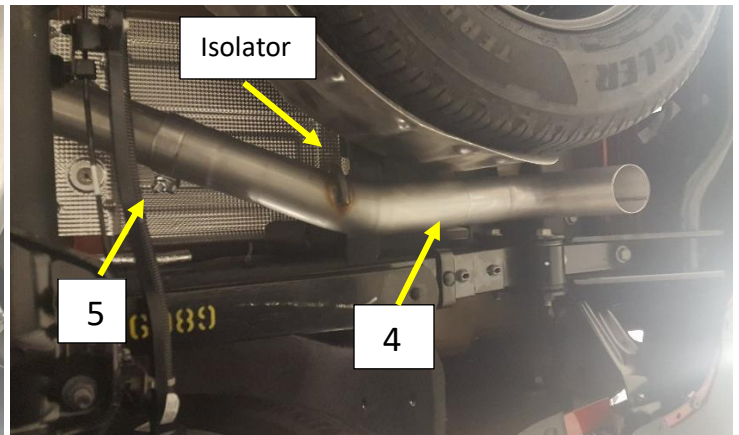

Figure.6
15. Install a supplied 3.0" band clamp (5) onto the expanded end of the turn down tail pipe (4) with the bolt at the top and the nut facing the ground. **Fig.6**